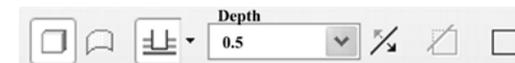

Fig. 2.34.
8. Define the depth.	<p>Select the depth dimension → 0.5 → ENTER</p> <p>Refer to Fig. 2.34.</p>